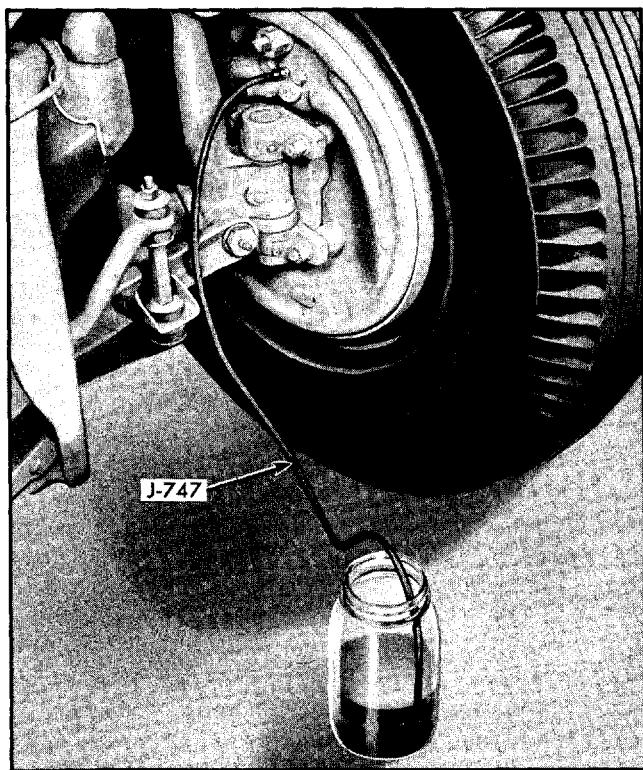

Fig. 5-11 Bleeding Brakes
2. Starting at left front wheel, remove screw from bleeder valve and attach bleeder tube J-747, allowing tube to hang submerged in brake fluid in a clean quart glass jar (Fig. 5-11). Unscrew bleeder valve three quarters of a turn, depress pedal full stroke and allow it to return slowly making sure end of bleeder tube is under surface of liquid in container. Continue operating pedal, refilling reservoir after each five strokes (unless an automatic filling device is used), until liquid containing no air bubbles emerges from bleeder tube. CAUTION: Bleed tube must always be used when bleeding brakes. In addition, end of tube must be below level of brake fluid in glass jar when bleeding other than by pressure.